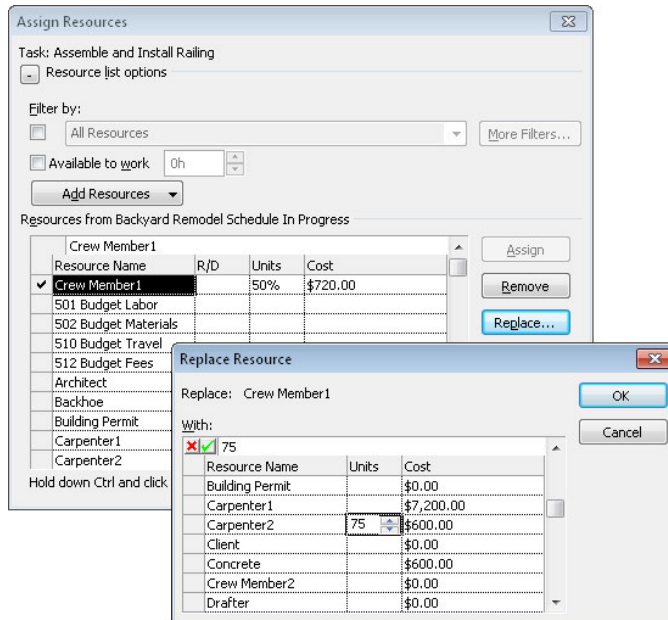

FIGURE 13-7 You can select a replacement and assign the units in the Replace Resource dialog box.
4. In the Replace Resource dialog box, shown in Figure 13-7, in the Units field for the resource you want to use as a replacement, type the percentage you want and click OK.